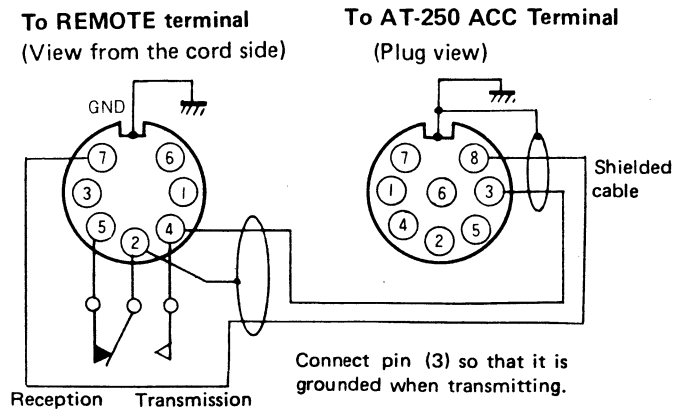

Fig. 3 Remote cable B
Connect the AT-250 ACC jack to the transceiver REMOTE jack with the remote cable (B) supplied. (Fig. 3)